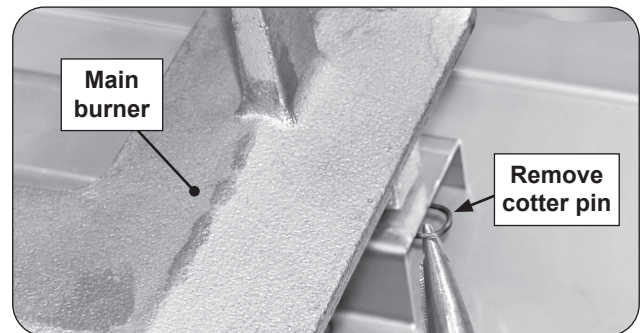

Fig. 41-2 Remove cotter pin
2. Locate and remove the cotter pin from the left or right rear burner anchoring peg by pulling it straight out of the cotter pin hole using fingers or needle-nose pliers. See Fig. 41-2.